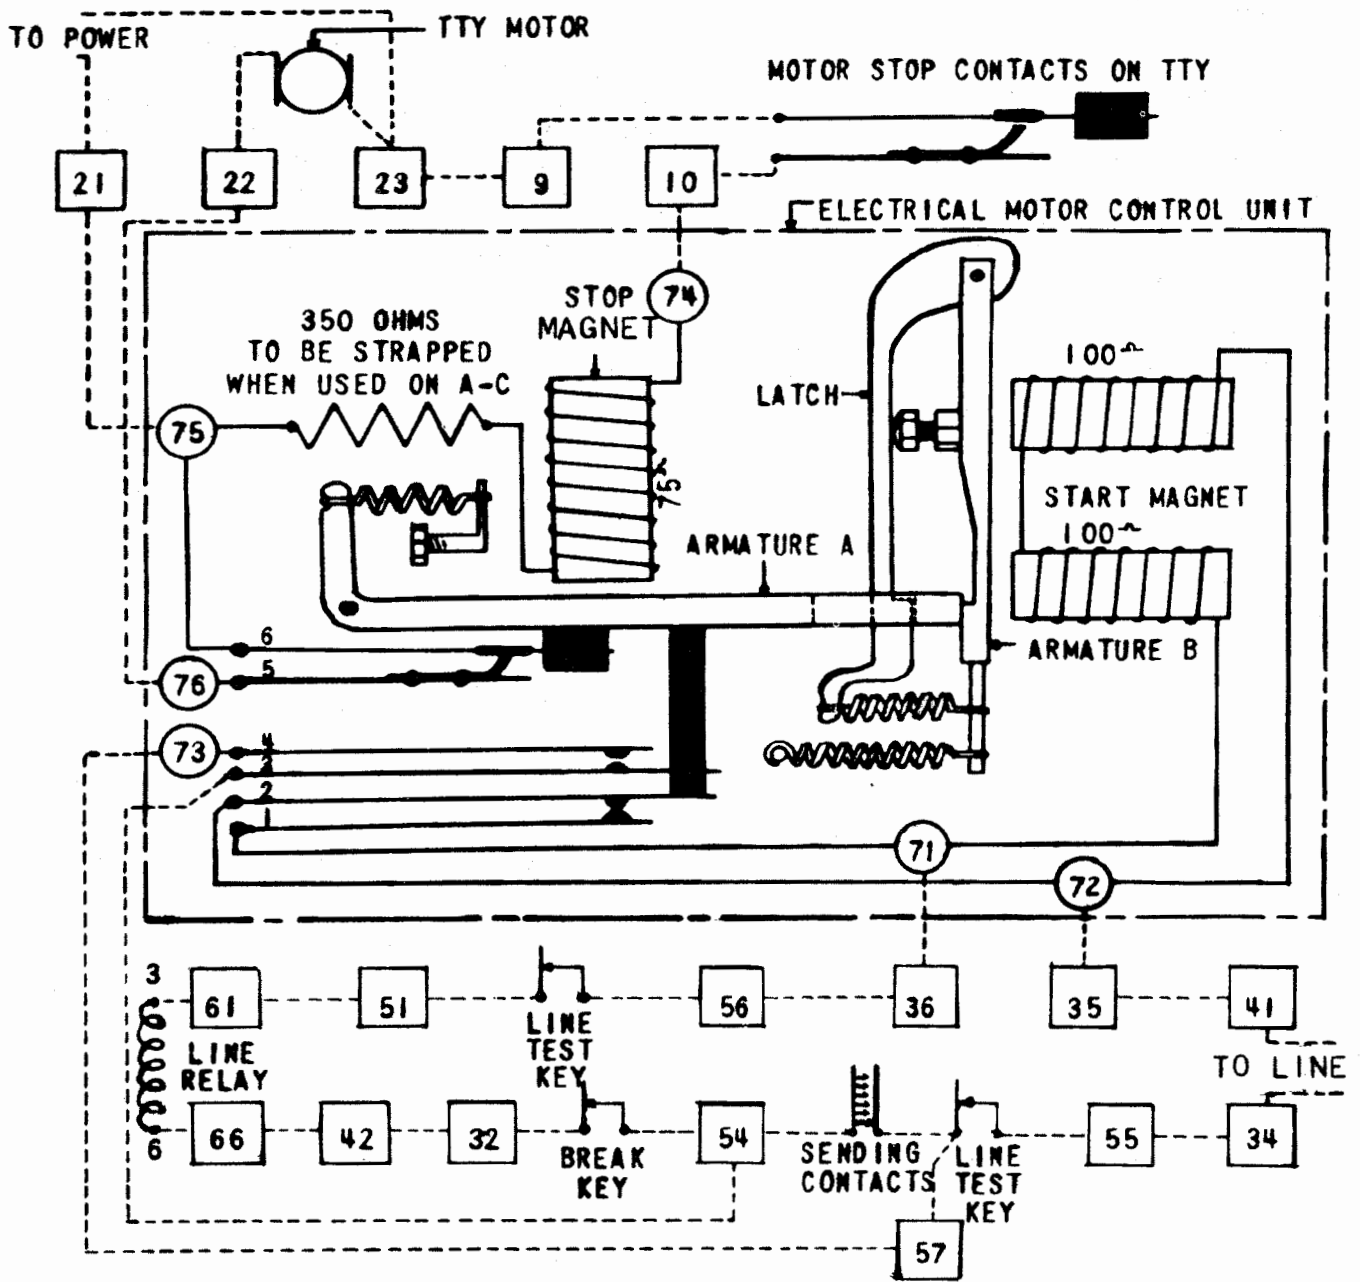

Figure 1
(2) As the motor-stop function lever is moved forward in the vanes, its lower rear extension raises the motor-stop lever; this latches the inner motor-stop pawl onto the thick part of its latch on the armature extension. See Figures 1, 2, and 4 in Section 572-007-700.
(1) When the line is opened, the selector armature extension is moved downward by the armature spring and the upper end of the motor-stop lever, having moved forward a slight distance, is again stopped when its outer pawl catches the cut-away portion of the motor-stop-pawl latch. See Figures 1 and 2, Section 572-007-700.
3.08 Relay Unit (See Figure 1)
Note: TTY terminals shown in Figure 1 for 15D base with line relay. Solid lines indicate wiring within motor-control unit. All external wiring is shown in dotted lines.